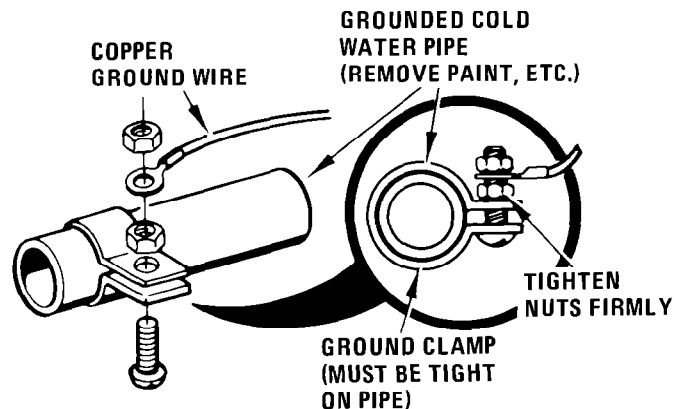

FIGURE 3
**B.** If used in mobile home or if local codes DO NOT permit frame grounding to the neutral, separate the white and green wires that extend out of the end of the supply cable of the appliance. Connect the white wire from the supply cable to the neutral wire. Connect the black and red wire from the supply cable, matching the colors, to the corresponding wires in the junction box. The green wire must now be used to ground the appliance in accordance with local electrical codes. Connect the insulated green colored copper ground wire to a grounded cold water pipe\* or to the grounded lead in the service panel. Do not ground to a gas supply pipe. Do not connect to electrical power supply until appliance is permanently grounded. Connect the ground wire before turning on the power (see Figure 3).